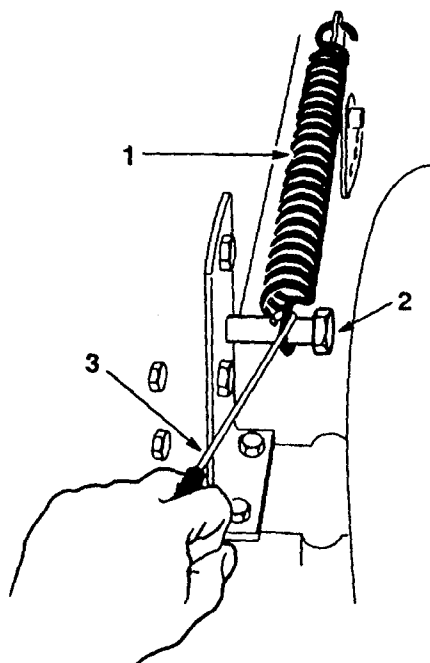

Figure 38
4. Remove the height-of-cut lift assist spring from the retaining bolt (Fig. 38), using the spring tool provided with the machine. The spring is between the frame and the right rear wheel.